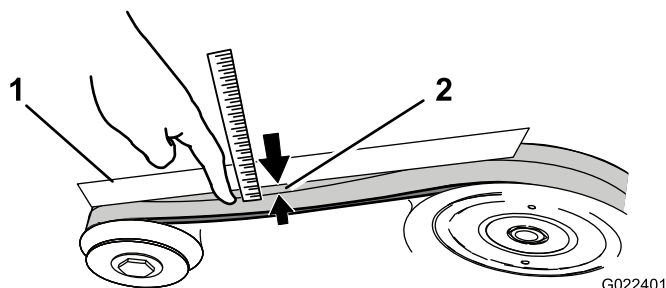

Figure 34
3. Push on a span of the drive belts (Figure 34) with 4.5 kg (10 lb) of force. If the belts flex more than 6 to 13 mm (1/4 to 1/2 inch), adjust the tension as follows: